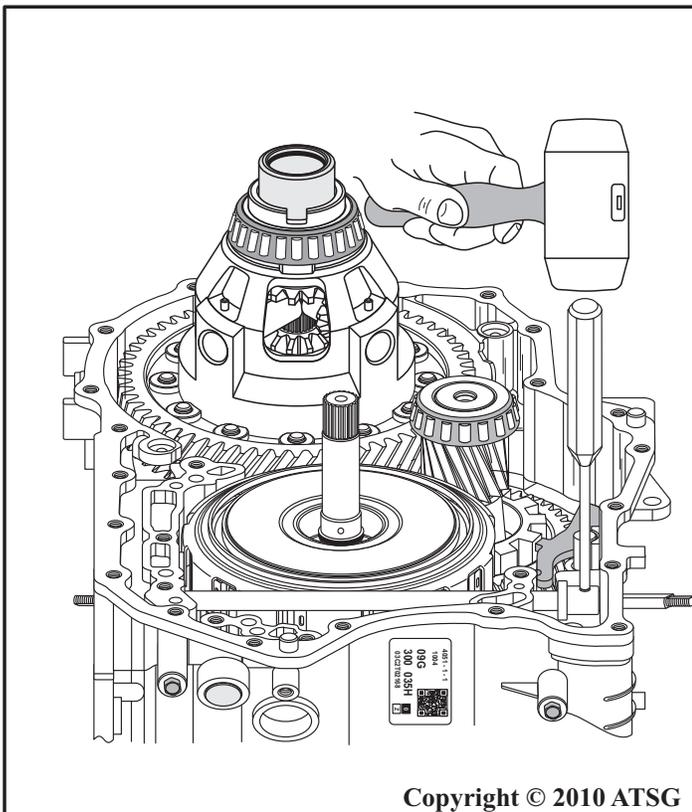

Figure 69
40. Remove the "rolled" pin from the inside detent lever using a 3/16" punch and hammer, as shown in Figure 69.